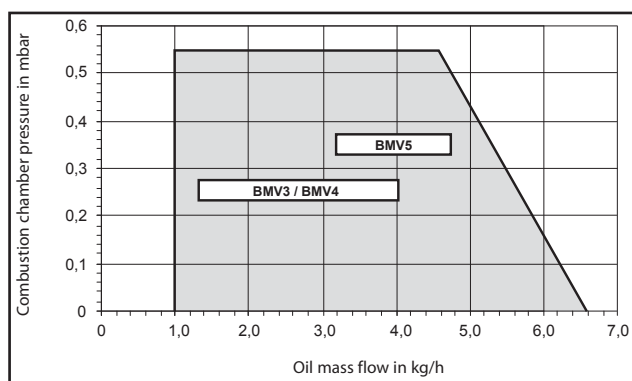

Figure 4
- In the chart, you find allowed combustion chamber pressure as function of the oil flow (see fig. 4).